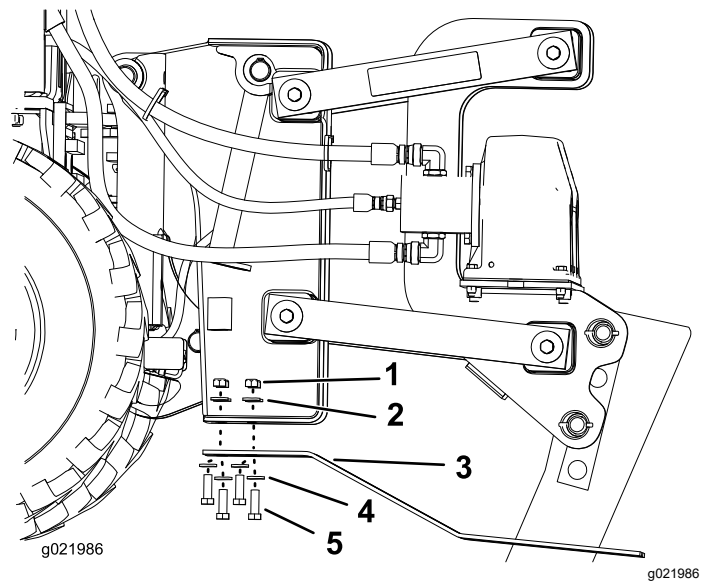

Figure 18
3. Remove the 4 bolts, 4 nuts, and 8 washers from the skid shoes (Figure 18).
4. Install the new skid shoes and secure them with the previously removed hardware (Figure 18).